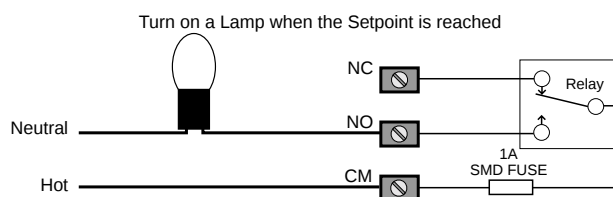

Figure 1
Some examples of uses for the set point relays are: Using the normally open position of a set point as a switch to turn on a light or siren when the set point is reached, using the normally closed position to cut out a motor when a set point is reached, or using the set point relays to change speeds on a motor. See Figure 1 for an example hook up to a lamp. The normally open (NO) contact of a relay is used to turn devices on when a set point is reached, while the normally closed (NC) contact is used to turn a device off when the set point is reached. The common (COM) contact connects the power to the relay.